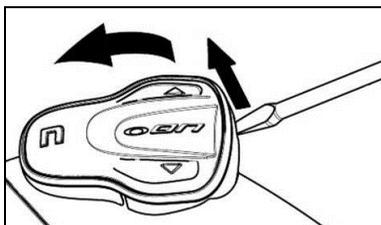

Fig. 21
- Remove the keypad from the shell, as indicated in Fig. 21.